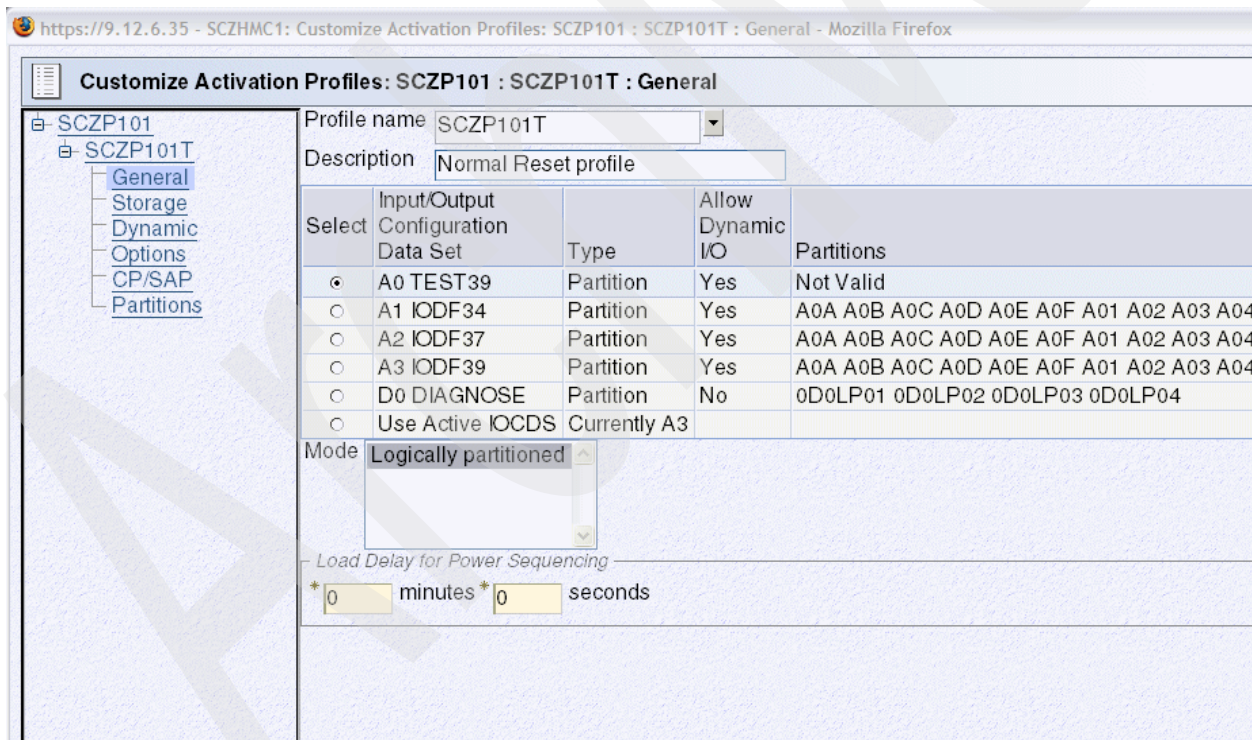

Figure 3-96 HMC - Activation Profiles (IOCDS Not Valid warning message)
8. When you click **Yes** the following warning message will be displayed (Figure 3-96).